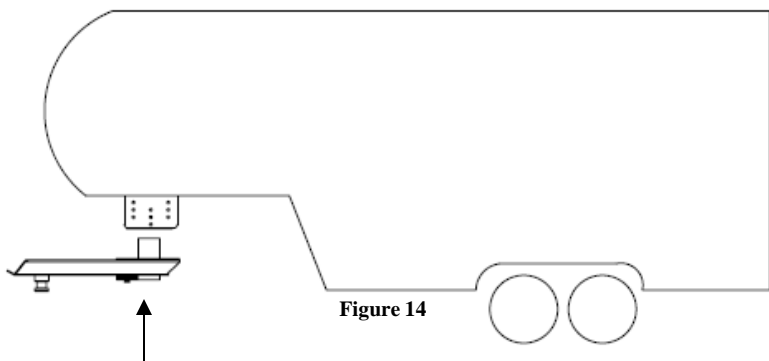
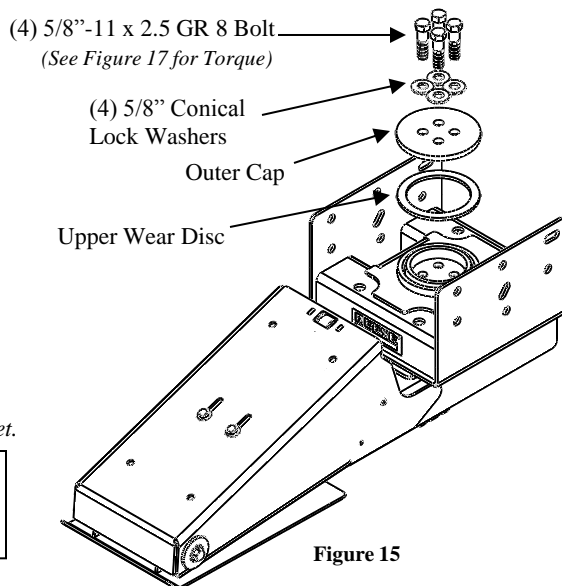

Figure 14
Figure 15
6. Raise the Sidewinder™ arm into position, figure 14. Align the pivot tube on the arm inside of the pivot bushing within the turret. It may be necessary to drive the pivot bushing down while the arm is raised, this may be done with a rubber mallet or a block of wood and a hammer. Support arm in place; install the upper wear disc and outer cap. Install (4) 5/8" Cap bolts & 5/8" Lock washers, do not fully tighten these bolts at this time (figure 15).